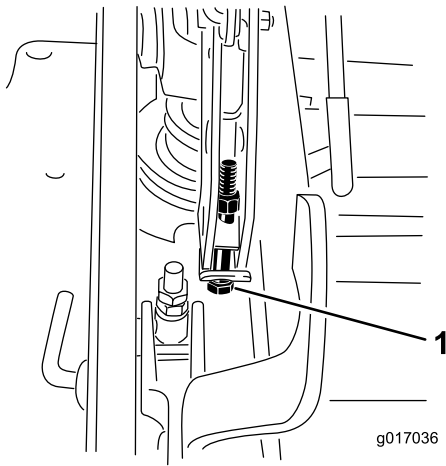

Figure 122
12. If the deck is too low, tighten the single-point-adjustment bolt by rotating it clockwise. If the deck is too high, loosen the single-point-adjustment bolt by rotating it counterclockwise (Figure 122).